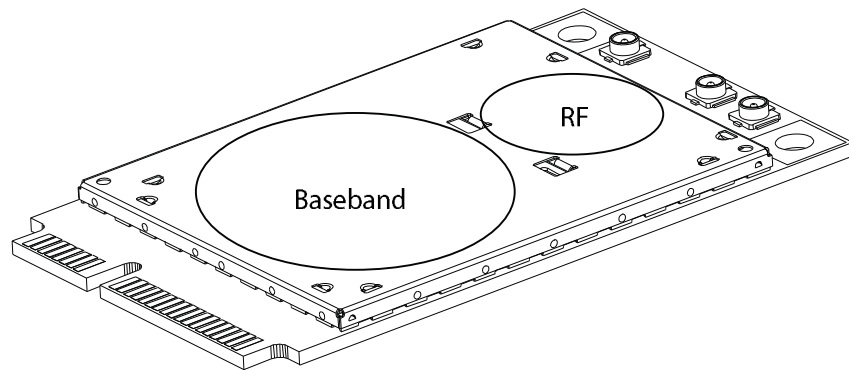

Figure 7-4: Shield locations
Specific areas requiring heat dissipation are shown in Figure 7-4:
- Monitor temperature at all shield locations. Attach thermocouples to the areas indicated in Figure 7-4 on page 62 (Transmitter, Baseband 1, Receiver, Baseband 2).